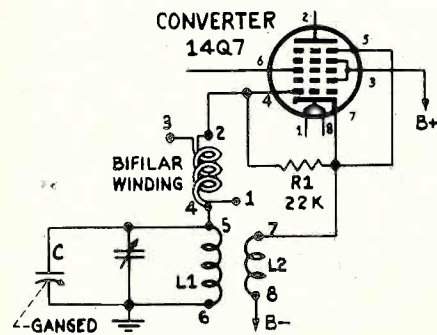

Figure 4.
The usual method of coupling the oscillator tank voltage to the oscillator grid is through a fixed mica capacitor which is connected between the grid and high side of the tank circuit. This capacitor is anywhere from 50 to 100 mmf in value. The higher the value of the capacitance, the greater would be the coupling between the oscillator tank and the oscillator grid of the tube. The previous gimmick arrangements produced a satisfactory enough capacitance, but another gimmick arrangement in the form of a *bifilar winding* is used to give a high capacitance. It is shown in Fig. 4.
In the circuit of Fig. 4, a bifilar type winding is used but one end is open on each side of the winding (terminals 1 and 3).
There is a definite purpose for doing this and it will become evident as the complete oscillator coil is analyzed. Coils  $L1$  and  $L2$  represent the necessary transformer inductances incorporated with the usual tickler-coil oscillator. The bifilar winding together with  $L1$  and  $L2$  are all wound on one coil form. A drawing of the actual coil form with all the coils wound on it is shown in Fig. 5(A) and a schematic representation of the coils is shown in Fig. 5(B). The numbers from 1 to 8 on Figs. 4, 5(A) and 5(B) are all related to one another and represent the connecting ends of the coils.